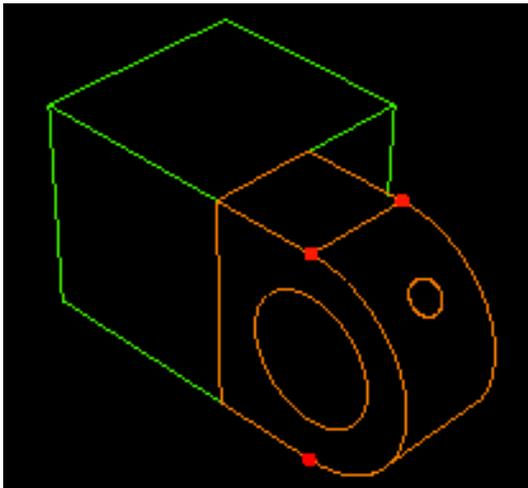

Figure C-50 Select three points to use in partitioning the flanges.
5. Select three points that cut the flanges in half with a vertical partition, as shown in Figure C-50.